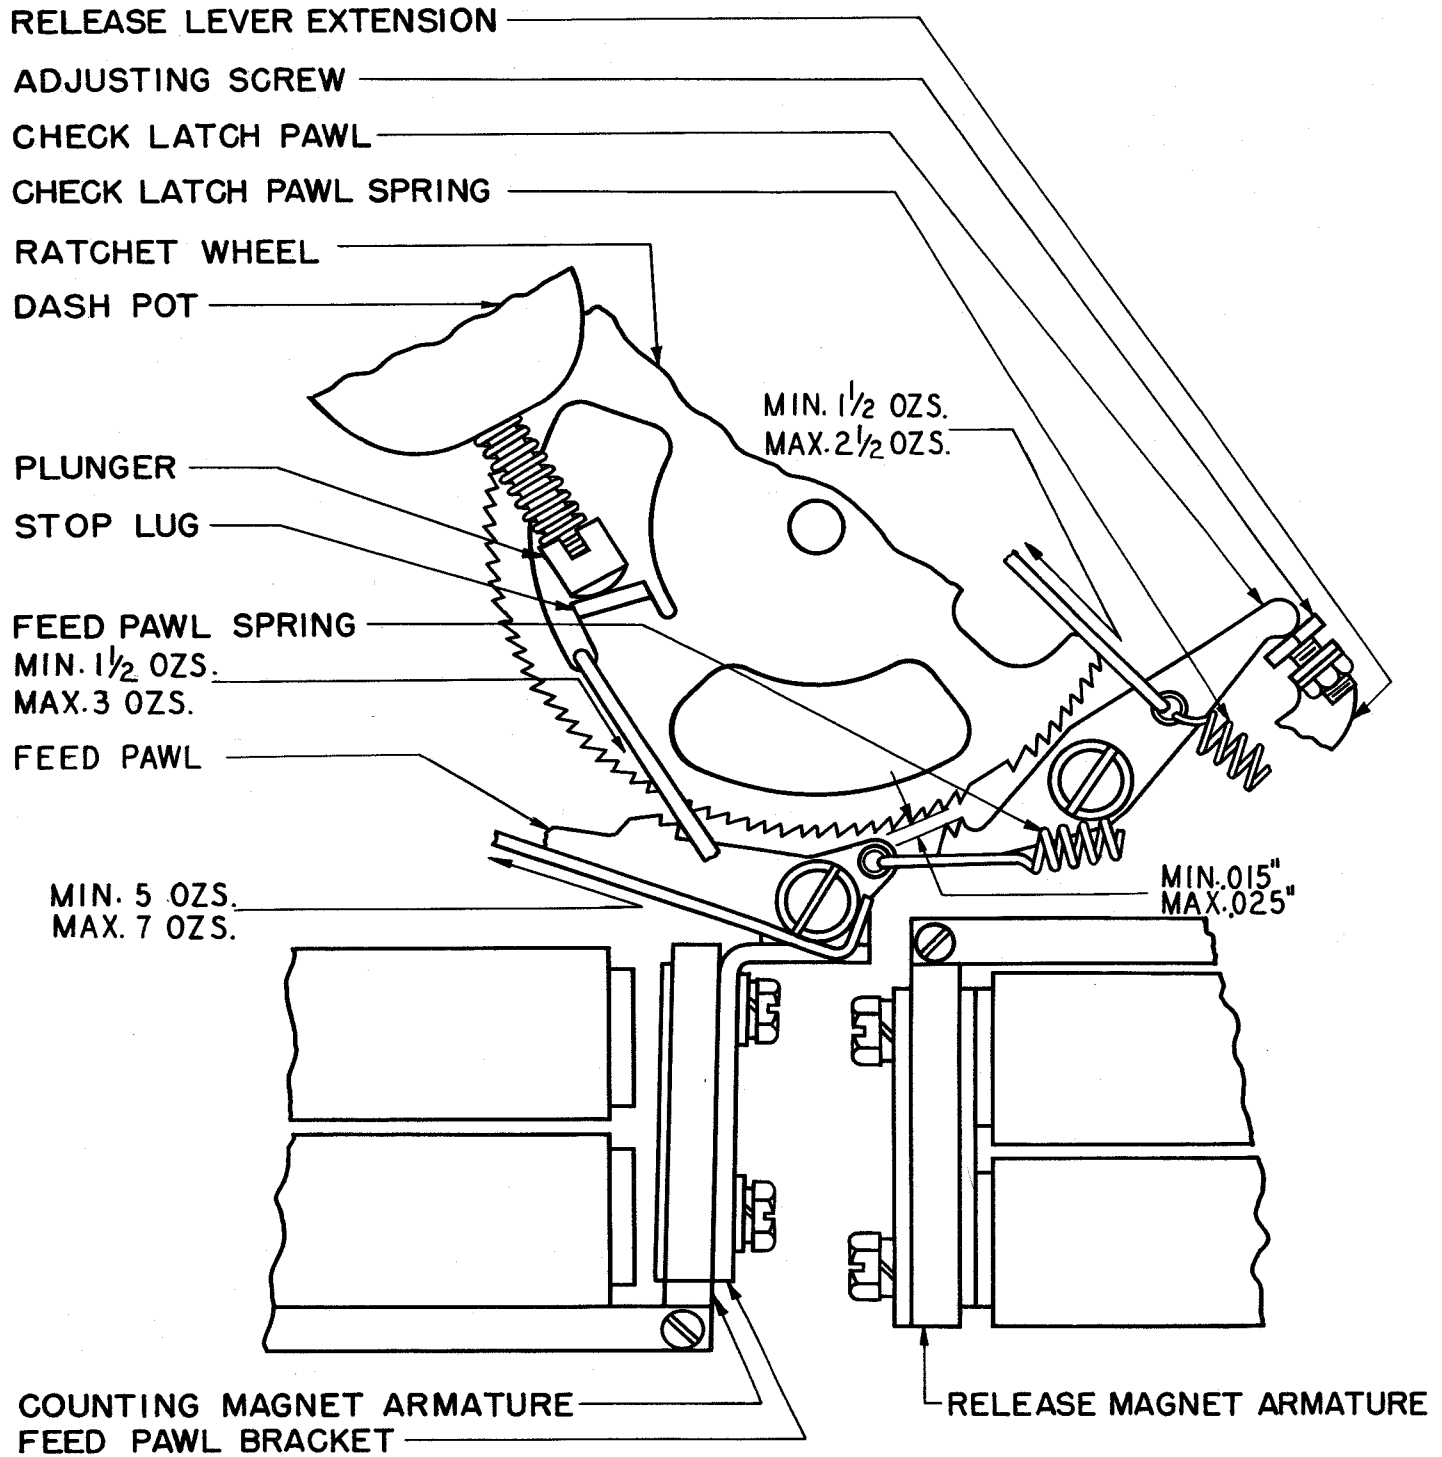

Figure 47
6.03 Ratchet-wheel Spring should have a tension of minimum 1-1/2 ounces, maximum 3 ounces as the stop lug starts moving away from the end of the plunger when the release magnet is operated and the dashpot plunger is held depressed. See Figure 47.
6.06 Check-latch Pawl should clear the ratchet teeth by minimum 0.015 inch, maximum 0.025 inch when the release magnet is in the operated position. Pawl should clear the feed pawl and its spring when moved back from the ratchet as far as possible. See Figure 47.
6.10 Check-latch-pawl Spring should have a tension of minimum 1-1/2 ounces, maximum 2-1/2 ounces as the pawl starts to move when release-magnet armature is in operated position. See Figure 47.
6.11 Counter Feed-pawl Spring should have a tension of minimum 5 ounces, maximum 7 ounces as pawl starts to move when the release-magnet armature is in operated position. See Figure 47.